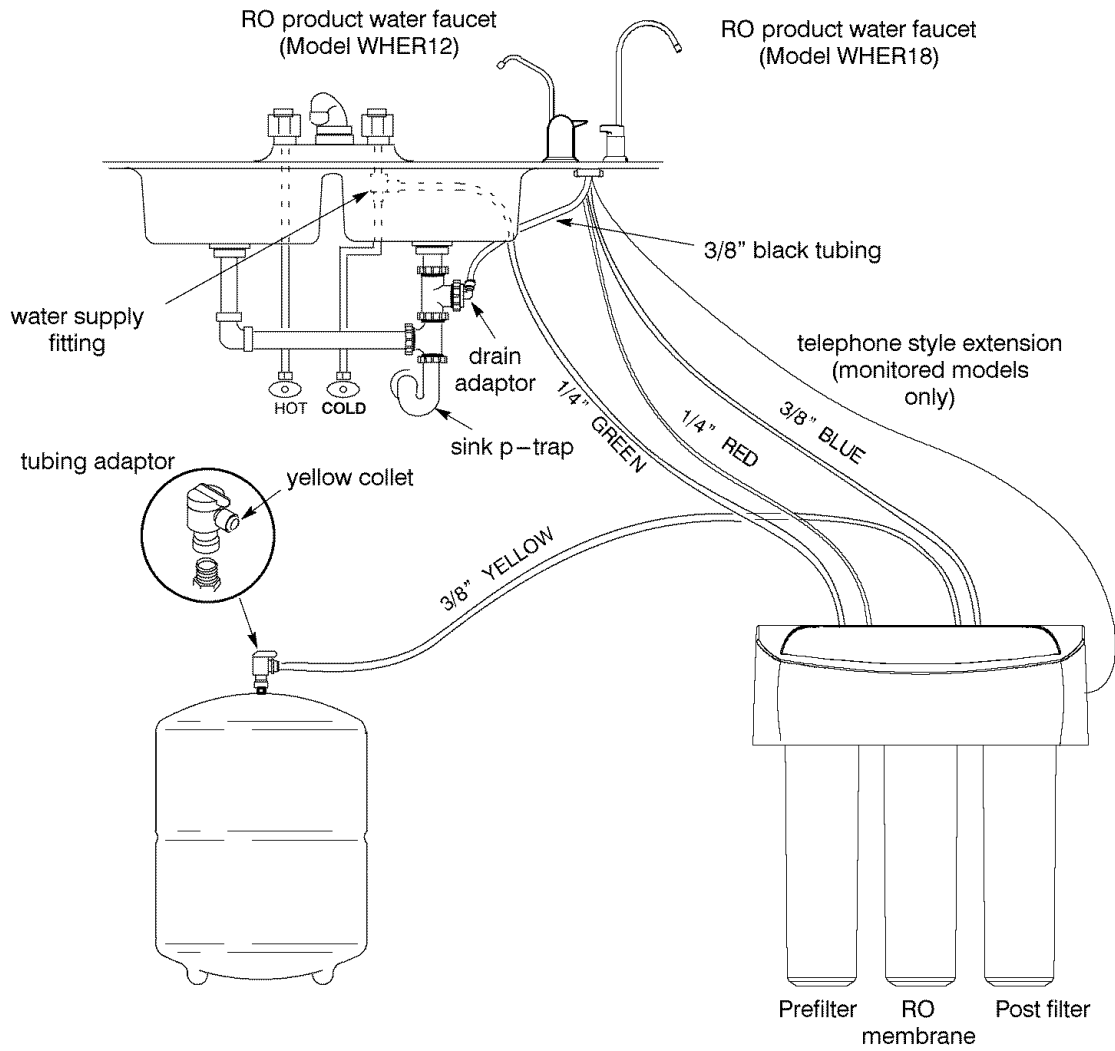

Figure 9
1. Select one of the following places for the faucet. Be sure it will fit flat against the surface, and there is space underneath for tubing (see Figure 9).
1. Connect drain tubing, faucet to drain adaptor: Referring to Figure 9, run the loose section of black 3/8" tubing from the faucet to the drain adaptor, with a black collet. Cut this tubing as needed to route in as straight of a run as possible, without loops, dips, low spots or kinks. Cut the end of the tubing square. Then push all the way into the fitting. Pull on the tubing to be sure it's held firmly in the adaptor fitting. See "Tubing Connection" section.